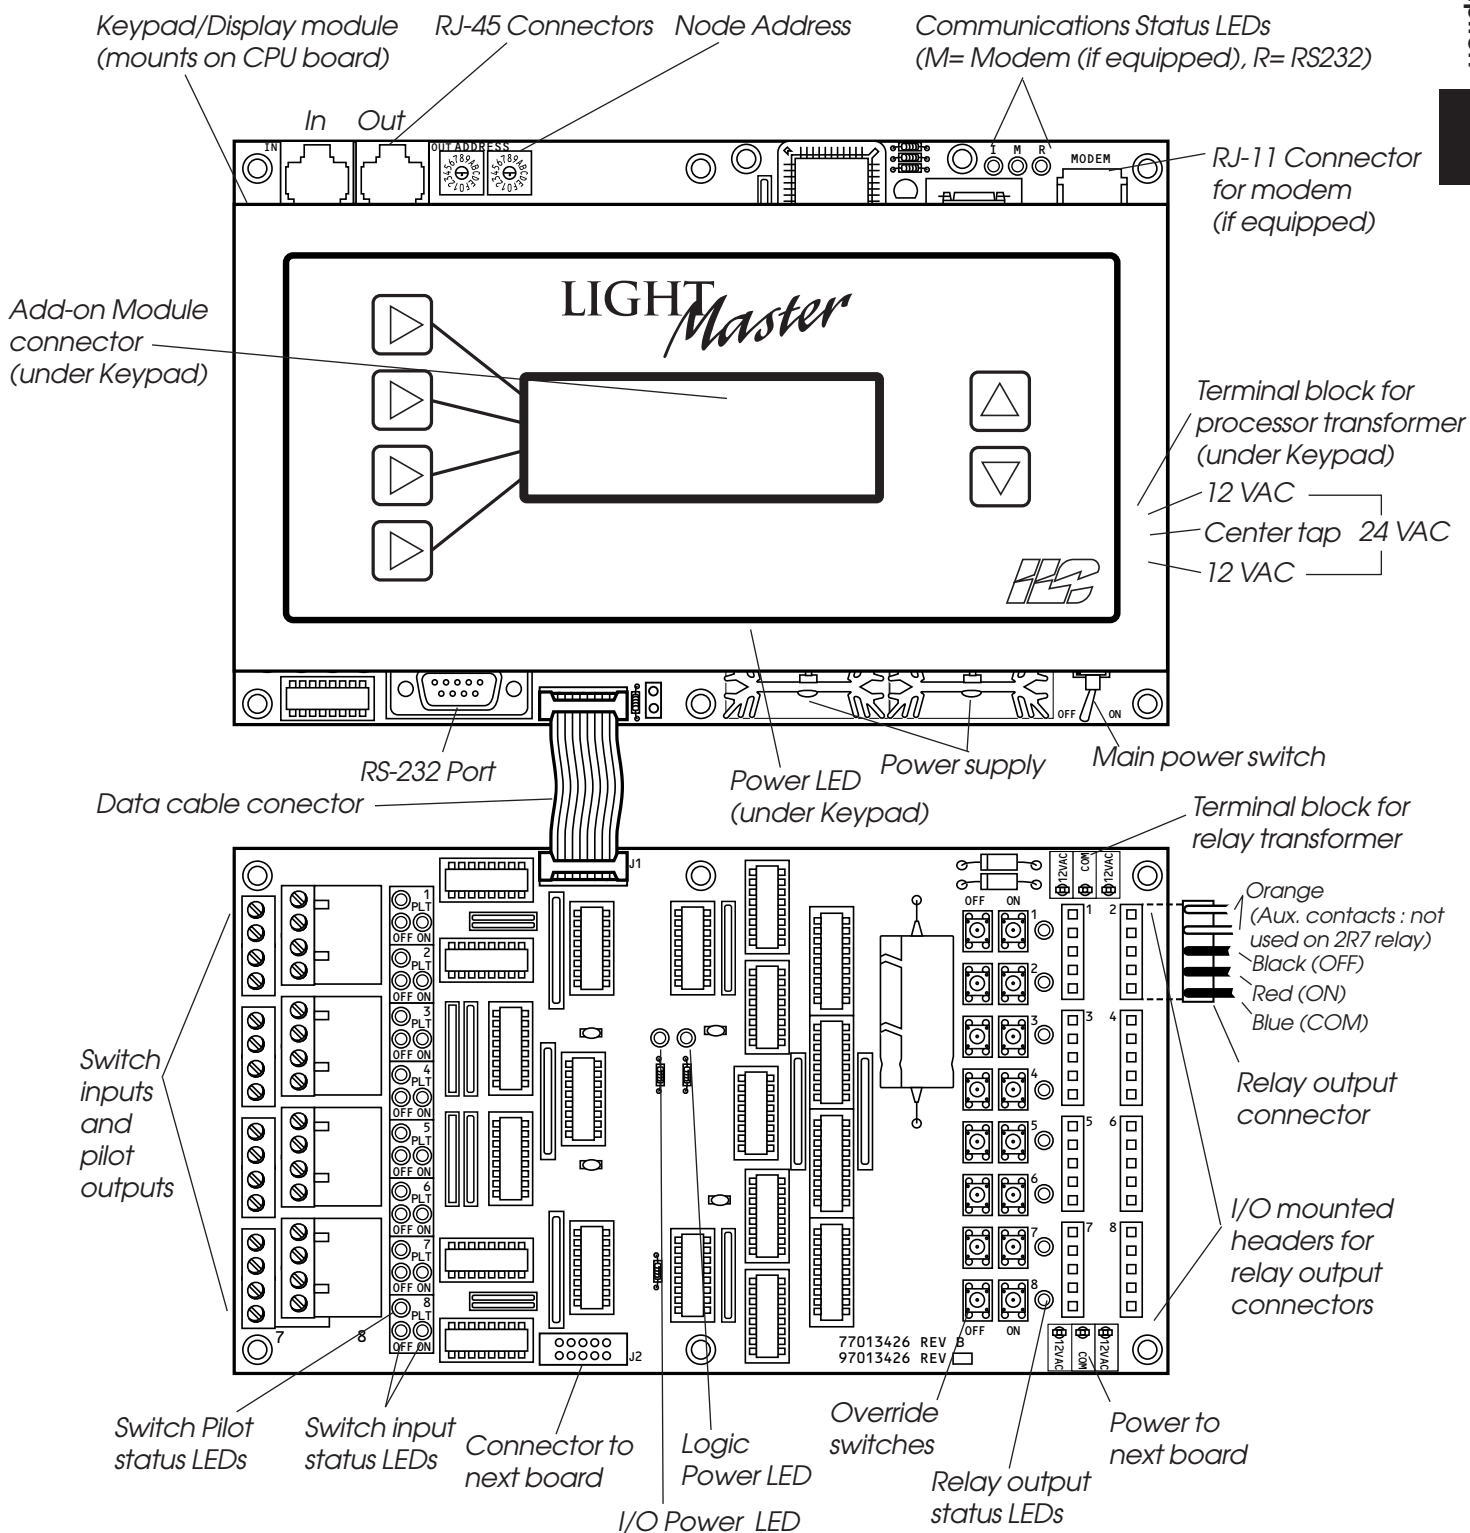

Figure 1.2 – CPU Board and I/O
1.1.3 CPU Board – (See Figure 1.2.) The CPU board provides the controller's intelligence, memory, and communications capabilities. Major components include:
1.1.6 Lighting Relays - control the line voltage loads. The lighting relays can control 120 or 277 VAC loads rated up to 20 amps. The Class 2 low voltage control part of each relay is terminated to a relay output on the controller I/O board(s). (See Figure 1.2.) Each relay output controls only one lighting relay.